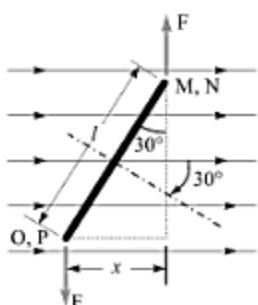

Fig. 5.17
**Solution** As shown in Fig. 5.17, the coil MNOP is kept such that the normal to its plane makes an angle of 30° with the uniform magnetic field. The magnetic force  $F$  experienced by each of the sides MN and OP is given by Eq. 5.7, as